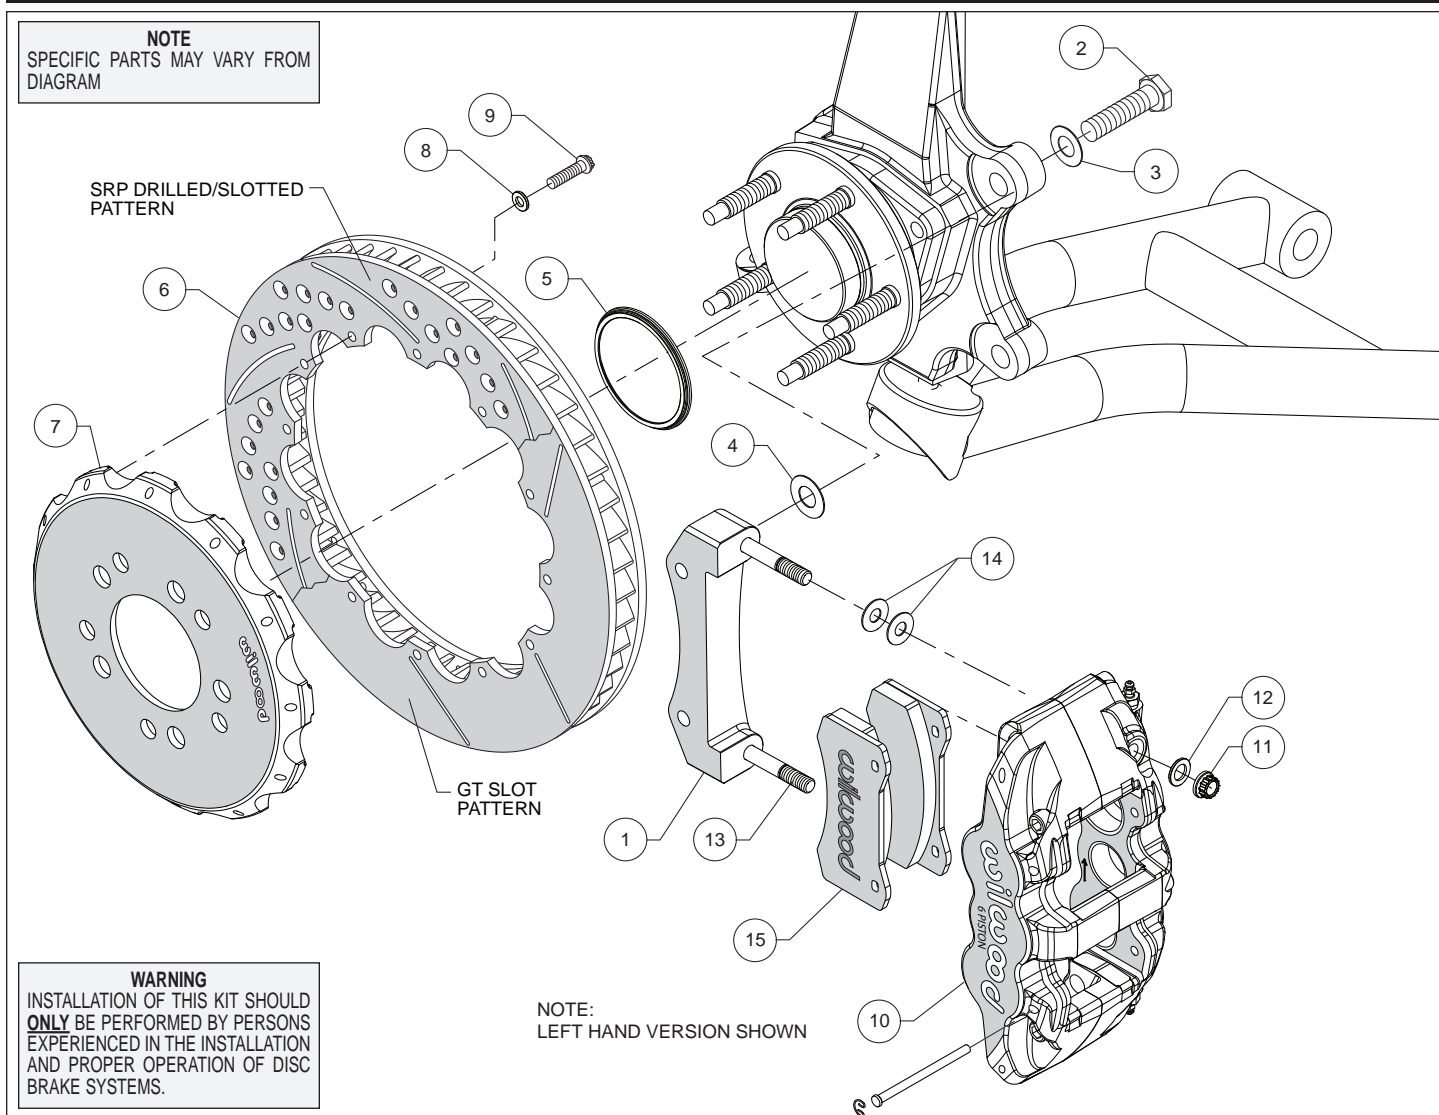
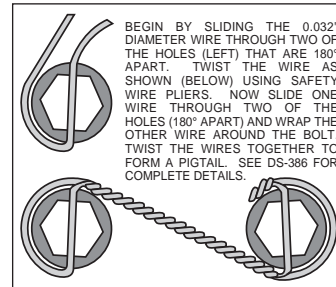

Figure 1. Typical Installation Configuration
Figure 3. Safety Wire Diagram
Assembly Instructions (numbers in parenthesis refer to the parts list and Figure 1 on the preceding pages):
- The caliper mount bracket (1) should initially be installed with clean, dry threads on the mounting bolts. Orient the bracket as shown in Figure 1, and install using bolts (2) and washers (3). Initially place one .033 thick shim (4) and spacer (5) on each bolt between the bracket and upright, Figure 1. Temporarily tighten the mounting bolts. **NOTE:** *The bracket must fit squarely against the mount bosses on the upright.* Inspect for interference from casting irregularities, machining ridges, burrs, etc. Later, after the caliper alignment has been checked, the mount bolts will be secured using red *Loctite*® 271.
- Orient the rotor (7) and the hat (8) as shown in Figure 1 and Photo 1. Attach rotor to hat using bolts (10) and washers (9). Using an alternating sequence, apply red *Loctite*® 271 to the threads, and torque to 155 **in-lbs**. For an added measure of security, the bolts may be safety wired using standard 0.032 inch diameter stainless steel safety wire as shown in Figure 3. Please refer to Wilwood's data sheet DS-386 for complete
- NOTE:** *This kit contains distinct right and left hand calipers that must be mounted in a specific direction, as described below.* Lubricate the caliper mounting studs (14) with lightweight oil. Initially place two .035" thick shims (16), and spacer (15) on each stud as shown in Figure 1 and Photo 3. Mount the caliper (11) onto the bracket (1) using lock nuts (12) and washers (13), Figure 1. Ensure that the caliper is mounted so that the largest pistons are at the rotor exit end of the caliper, in relation to the direction of rotor rotation. Temporarily tighten the lock nuts and view the rotor through the top opening of the caliper. The rotor should be centered in the caliper, Photo 4. If not, adjust by adding or subtracting shims (4) between the bracket and the upright. Always use the same amount of shims on each of the two mounting bolts. Once the caliper alignment is correct, remove the bracket mounting bolts (2) one at a time, apply red *Loctite*® 271 to the threads, and torque to 77 ft-lb.